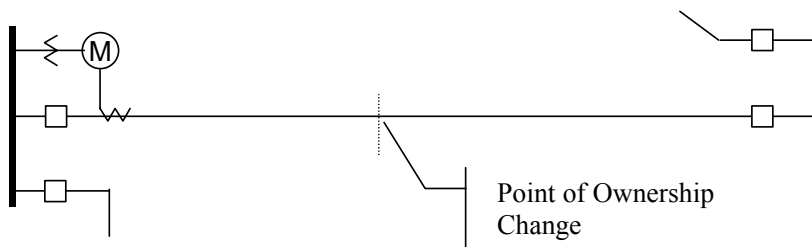

Figure 7.2: Joint Ownership Line Metering Requiring Loss Compensation
- The need for loss compensated metering may also exist when the ownership changes several miles along a transmission line where it is simply impractical to install metering equipment. Ownership may change at the midway point of a transmission line where there are no substation facilities. In this case, power metering must again be compensated. This condition is shown in Figure 7.2.